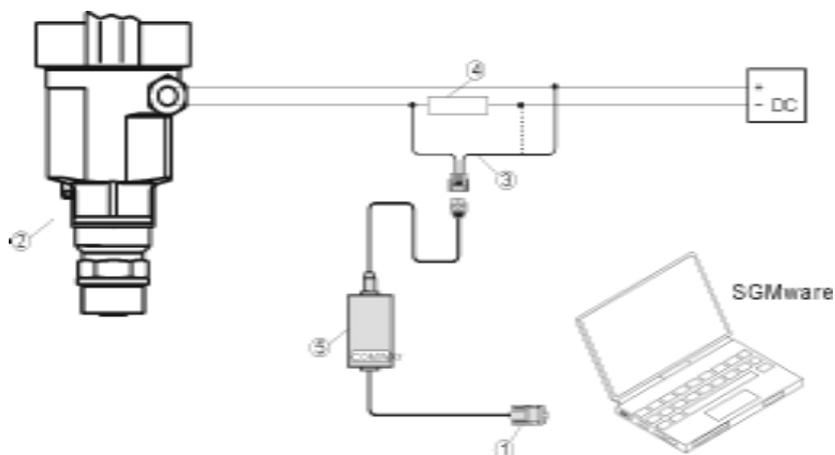

Fig.10
4.2.1 Connection by HART line (fig.10)